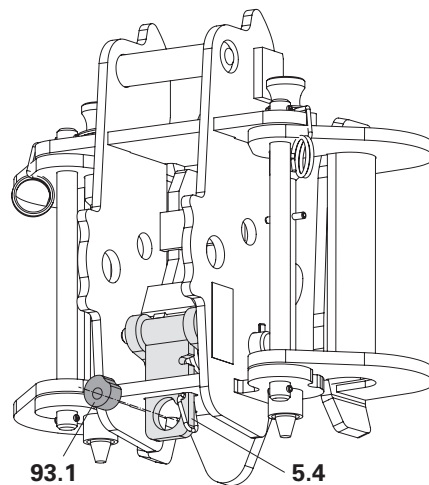

Fig. C5.10
2. Slide the adaptor (**93.1**) into the opening of the pawl lock (**5.4**) of the Climbing Shoe RCS (**5**). (Fig. C5.10)